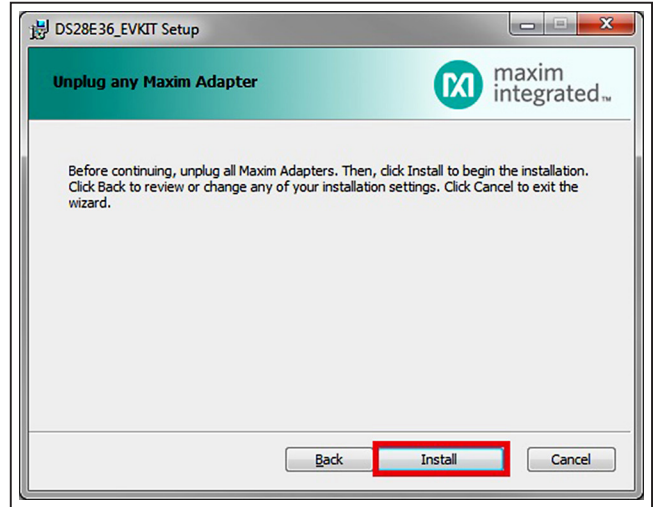

Figure 6. Installation
- 6) Unplug all Maxim adapters and click the **Install** button (Figure 6).